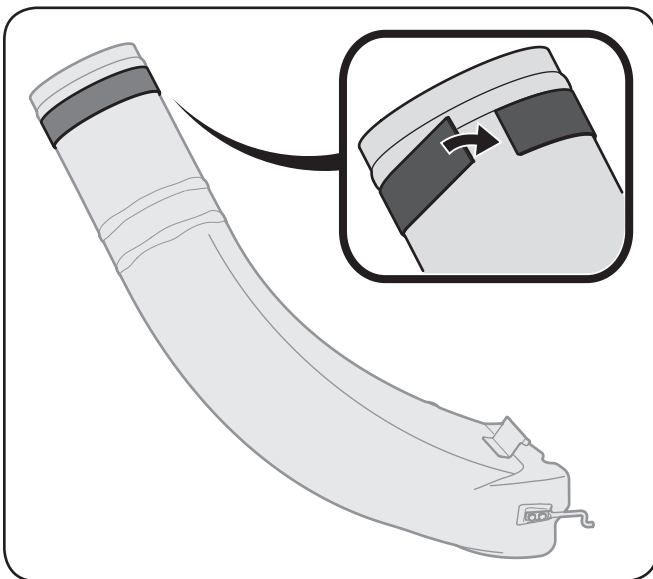

Figure 4-18
- Apply the other wide adhesive rubber strip, included in Hardware Pack 689-00342, onto the upper end of the discharge chute elbow. Place the adhesive strip up against the ridge in the upper portion of the discharge chute elbow, as detailed in the inset of Figure 4-18.